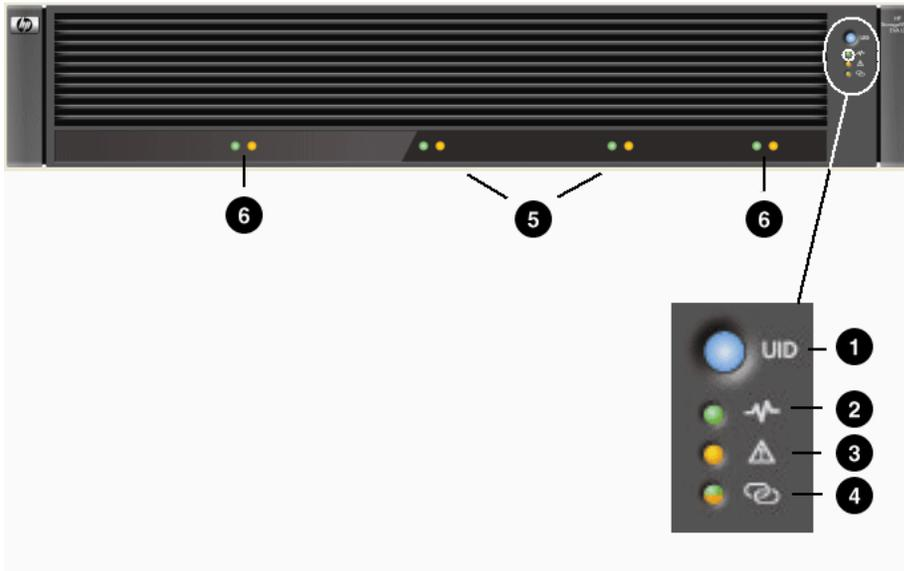

Figure 14 EVA4400 front panel LEDs
Each module of the EVA is equipped with an LED display (Figure 14). See Table 3 for LED information. The enclosure external health LED (2) on the panel should be lit when the unit is operating properly. Check the LEDs located on the enclosure first before checking the LEDs on individual replaceable units in the EVA.